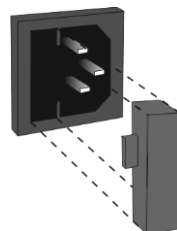

Figure 9. Fuse holder
- 9.4. **Fuse replacement.** Disconnect the power cable from the mains. Disconnect the power cable from the socket on the rear of the unit. Open the fuse holder, located near the socket (fig. 9). Check and replace with a correct fuse if necessary, see table below: